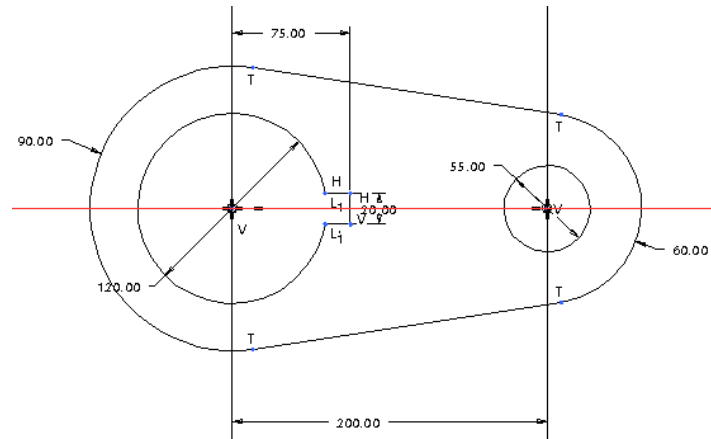

Figure 3-21 Sketch for Tutorial 1
In this tutorial, you will import an existing sketch that you had drawn in Tutorial 3 of Chapter 2. After placing the sketch, draw the keyway, as shown in Figure 3-21.
4. Modify all dimensions. Refer to Figure 3-21 for dimension values.